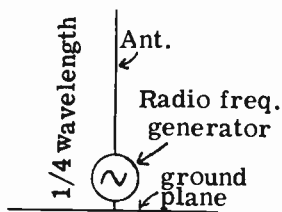
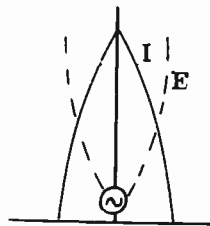

FIG. 17-9. MARCONI ANTENNA.
FIG. 17-10. DISTRIBUTION OF VOLTAGE AND CURRENT IN A MARCONI ANTENNA.
**THE MARCONI ANTENNA.** If one half of a half-wave Hertz antenna is replaced by a conducting plane, as illustrated in Fig. 17-9, the remaining quarter-wave will continue to radiate properly. This assumes that the conducting plane is large and acts as a good ground. The ground actually makes up for the other half of the antenna's electrical length. In other words, the antenna proper provides one-quarter wavelength and the ground supplies the additional one-quarter wavelength. The Marconi antenna is a practical example of this type of vertical antenna. The current and voltage distributions along the antenna length are as shown in Fig. 17-10. Notice that the generator feed point is still a high current, low impedance point, as in the case of the ungrounded Hertz antenna. Since the Marconi antenna is only  $1/4$  wavelength, it is  $1/2$  the physical length of a Hertz antenna and, therefore, is more practical for mobile operation. In the case of a mobile transmitting or receiving antenna, the metal mass of the car acts as the ground plane. For instance, if the quarter-wave whip antenna were mounted on the center of the auto roof, the automobile roof would act as an excellent ground plane, especially if the size of the roof were large compared to the wavelength being transmitted. In the case of a bumper mount antenna, the bumper, part of the auto body near the bumper and possibly the earth near the bumper, would constitute the ground plane.